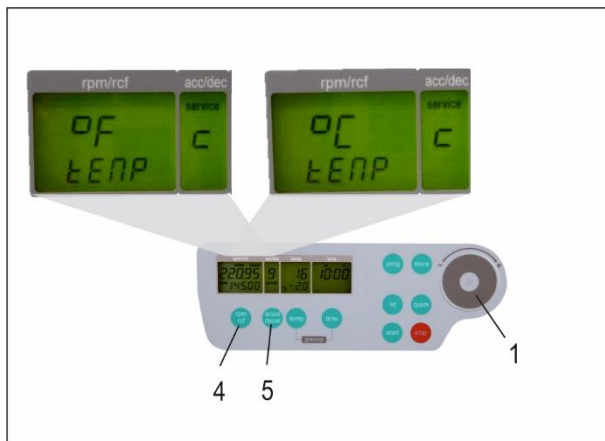

Figure 8
Proceed as illustrated, under point 1.8.1, to enter this program mode, press the key "accel/decel" (5). In the display, "accel/decel" (A-2) appears the word, "service". Select the letter, "C", with the control field (1). As a result, appearing in the display, "rpm/rcf" (A-1) are the words, " °C ". By pressing the key, "rpm/rcf" (4), the word " C/tEmP " flashes, this allows you to change the display into Fahrenheit " °F ", with the control field (1), (see Figure 8).